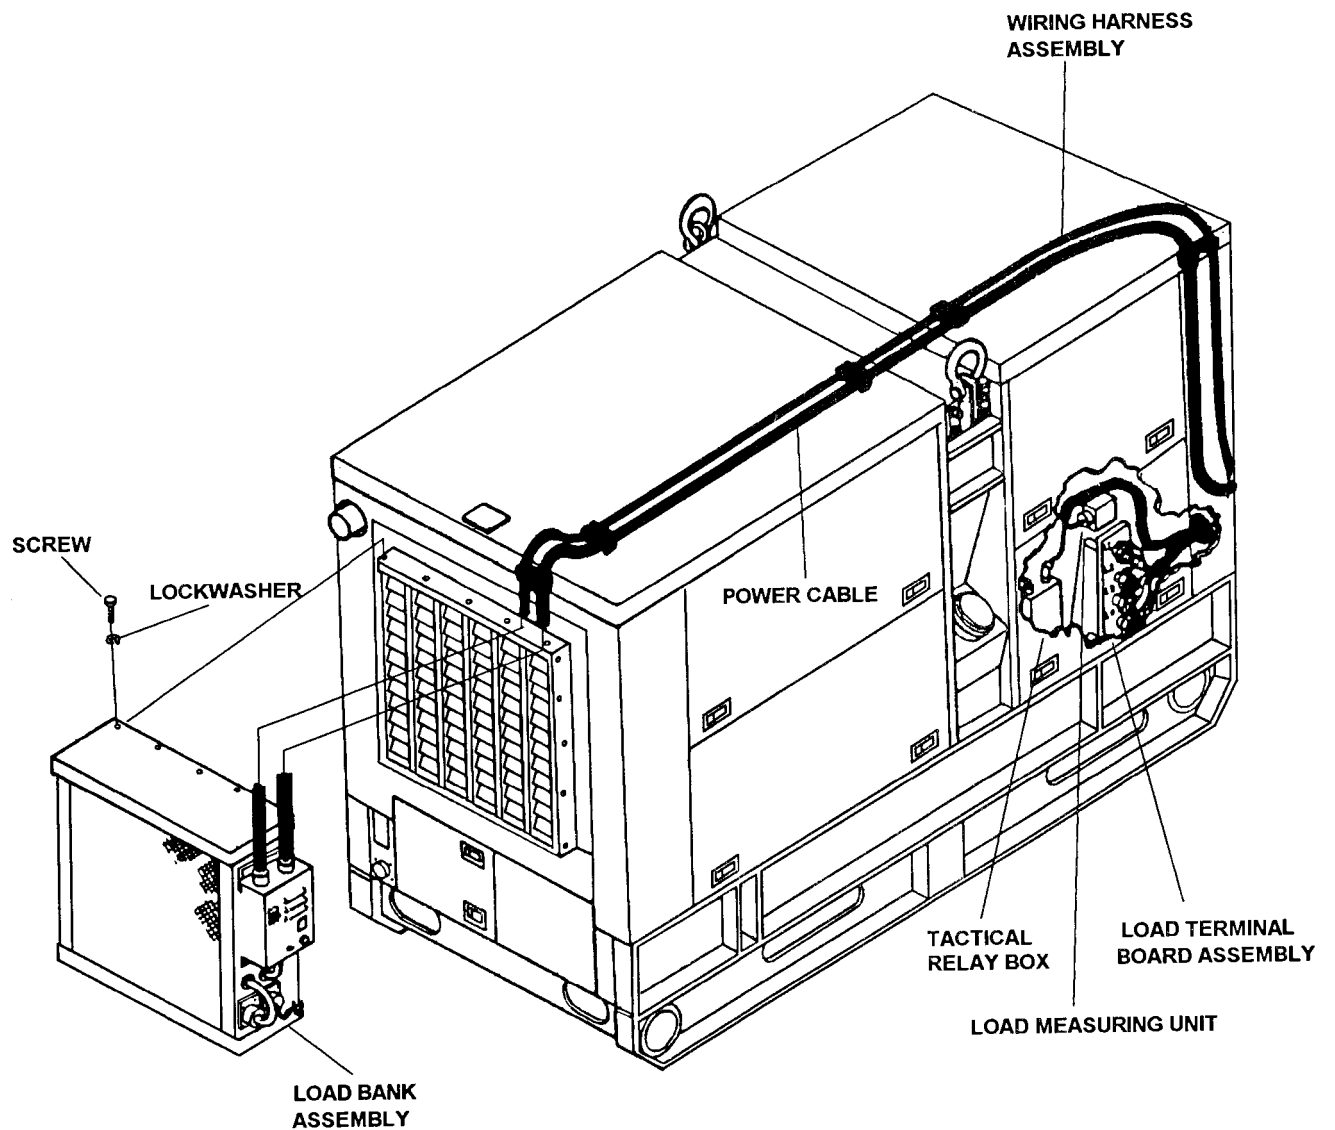

Figure 5-11. Load Bank Installation
- (1) Install load bank assembly (Figure 5-11) onto generator set radiator grille and secure with screws and Lockwashers.
- (1) Removal.
- (b) Remove screws (Figure 5-11) and lockwashers to remove load bank assembly.
- (2) Installation. Install load bank as outlined in paragraph 5-21a. above.
- a. Visually inspect wiring harness assembly (Figure 5-11) for frayed or burned insulation, loose support clamps and connections or other damage.